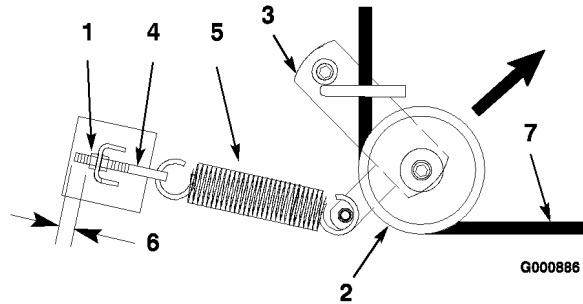
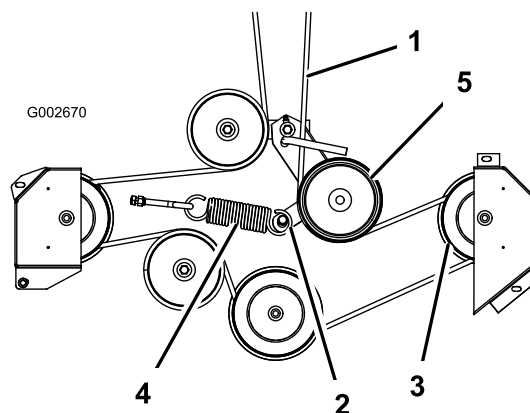

Figure 52
Figure 53
- Pull the idler pulley in the direction shown in Figure 52 and roll the belt off of the pulleys.
- Route the new belt through the idler arm and around the idler pulley (Figure 52).
- Pull the idler pulley in the direction shown in Figure 52 and route the belt onto the other pulleys (Figure 53).
Note: Check to ensure that the length of exposed thread on the spring eye bolt is 1/8 in. (3 mm) (Figure 52).